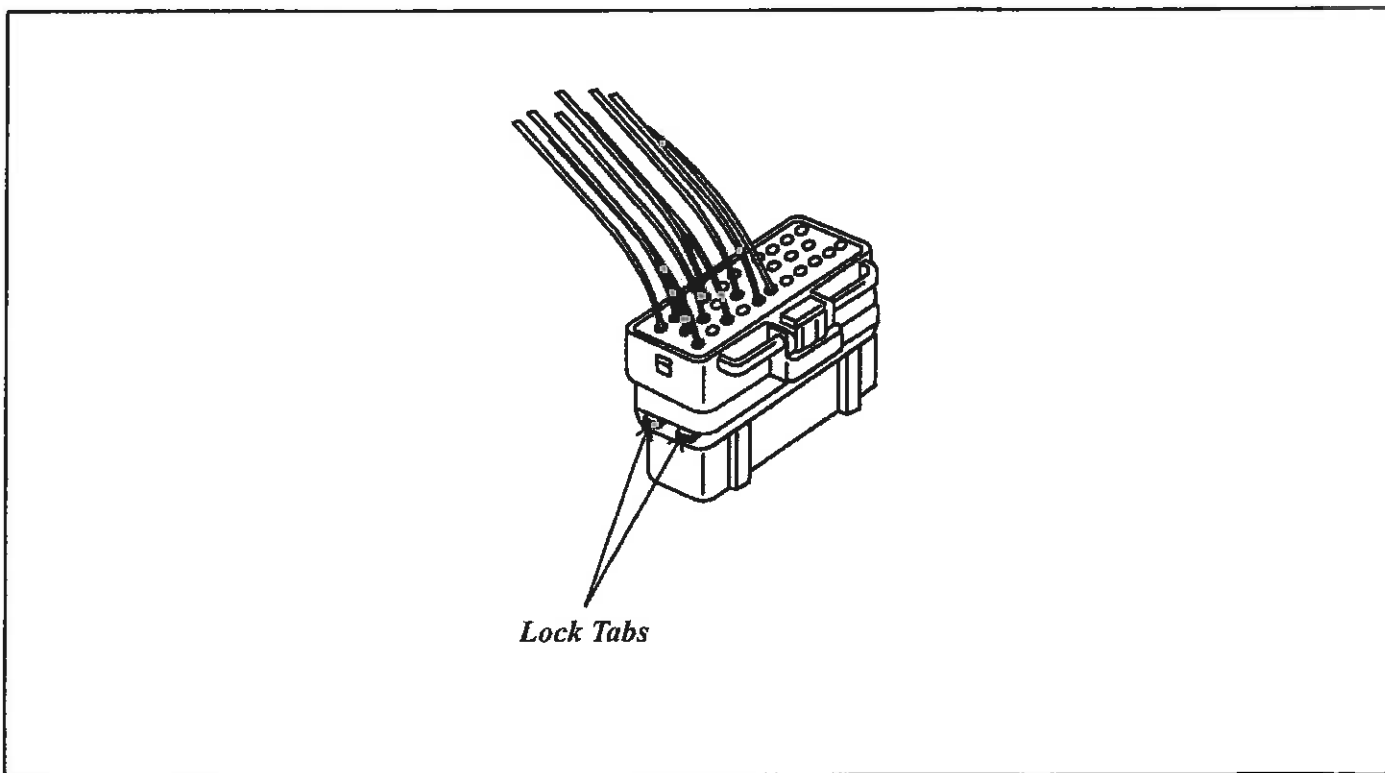

Figure 7
11. Using the notations taken in step 5 of wire color and location, carefully assemble the new and/or repaired connector assembly. When all of the wires are in place, push the two locking tabs into place to secure the wire terminals in the connector assembly (See Figure 7).